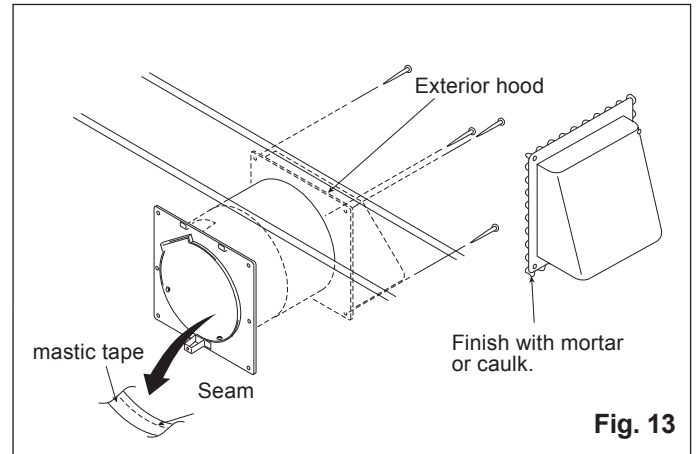

Fig. 13
7. Insert the attached exterior hood from the outside to cover the wall sleeve, and secure it with four screws or nails. Cover the seam between the wall sleeve and exterior hood with mastic tape and apply mortar or caulking to prevent rainwater from penetrating into the stud cavity. (Fig. 13)